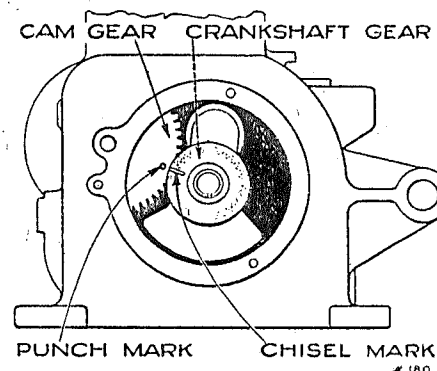

Fig. 11.
59. The timing of the valves is taken care of by the meshing of the cam shaft gear with the one on the crankshaft. These gears are properly meshed when the punch mark on the cam shaft gear is in line with the chisel mark on the crankshaft. (See Figure 11).